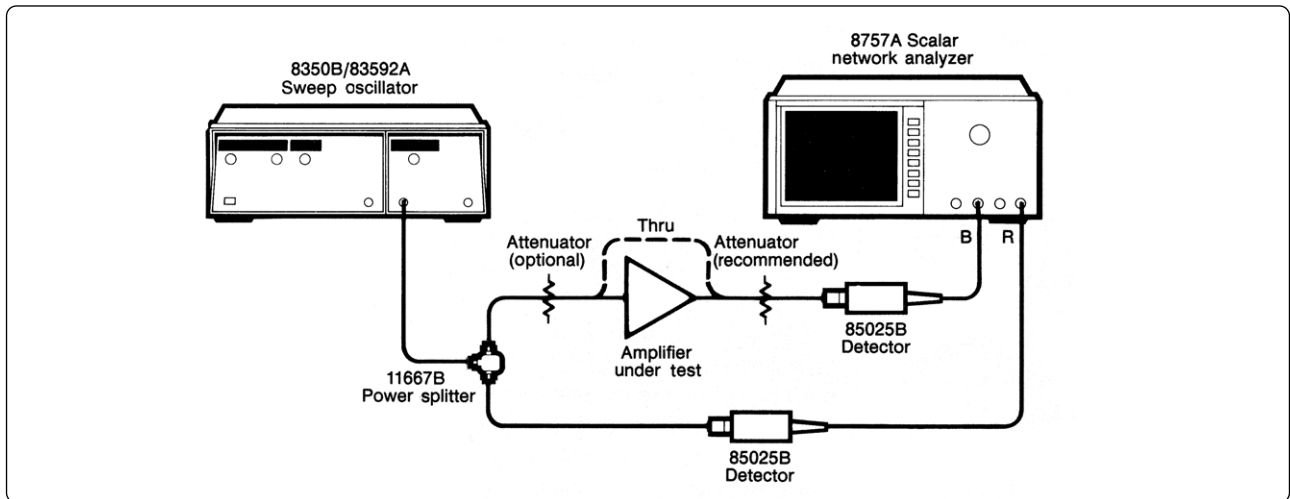
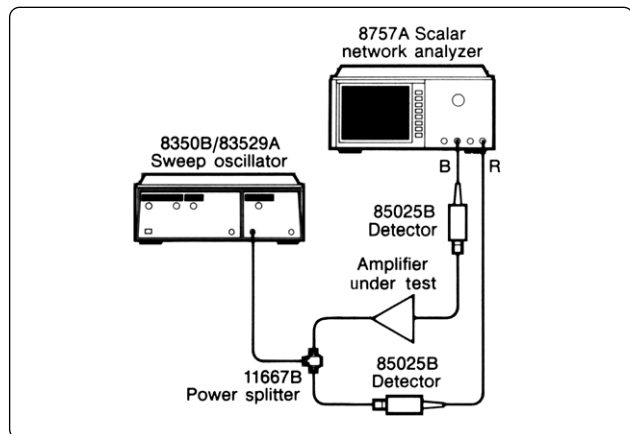
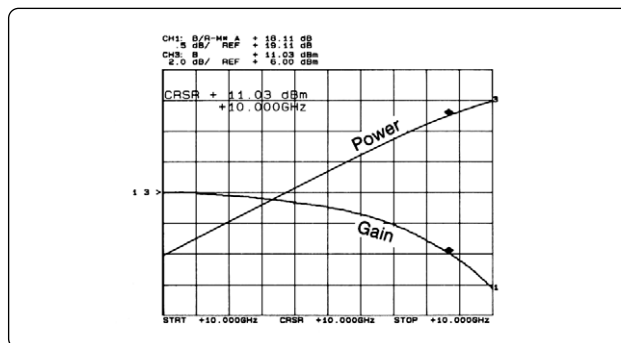

Figure 3. Test setup for measuring amplifier gain and gain compression characteristics.
Figure 5. Test setup for measuring amplifier isolation.
Figure 8. Single frequency gain compression measurement using the Power Sweep feature. Gain (and power) are displayed as a function of input power.
Gain, gain compression, and power can all be measured using the setup shown in Figure 3. Note that ratioing is performed using the power splitter. This ratioing improves the effective source match to remove the effects of re-reflected signals and permits gain measurements to be made at different RF power levels without recalibrating. Since source power level variations are monitored in both the reference and measurement channels, their effect is removed from the ratio.
1. Connect the instruments as shown in Figure 3. Connect the B detector directly to the test port. (Do not connect the device under test yet.)
The normalized compression measurement is a very useful test for finding the worst case compression point. Again, it is a swept frequency measurement of gain compression. Notice, however, that neither of the above methods provides a systematic method of measuring the power at 1 dB compression for a given frequency. This can be accomplished using the power sweep feature of the 8350B. At a single CW frequency, a power ramp is input to the amplifier under test, and gain is measured directly as a function of input power (see Figure 8). Again, output power, P_{1dB} can be displayed on a separate channel.
Transmission from output to input is defined as the reverse isolation of an amplifier. It can be measured using the setup shown in Figure 8. Note that Figure 5 is very similar to Figure 3 used to measure small signal gain. The differences are that the amplifier is reversed, and that the test port power level should be significantly higher, as close as possible to the amplifier's typical output power level.
4. The 8757A display should now show the gain as a function of input power level at a single frequency. Figure 8 shows an example. Notice that the gain decreases as the amplifier enters saturation. If the gain does not decrease by the desired amount (usually 1 dB), then increase the dB/sweep value or the start power.
Press [CHANNEL 1], [CURSOR], and select [MAX]. Activate the cursor delta function by selecting [CURSOR D ON]. Press [SEARCH], then select [SEARCH VALUE] and enter the desired search value, in this case -1.0 dB. Select [SEARCH RIGHT] and the cursor symbol will move to the 1-dB compression point. Deactivate the cursor search trace hold by pressing [CURSOR]. The channel 3 cursor should now read the amplifier output power at the 1-dB gain compression point (see Figure 8).